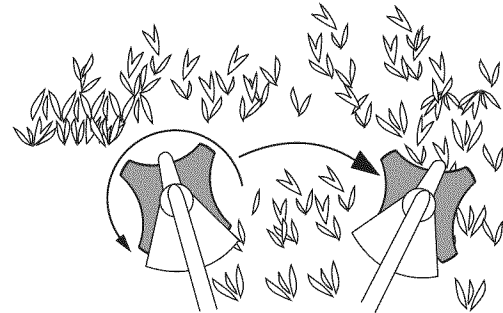

Fig. 14
- Cut from left to right (Fig. 14). This improves the unit's cutting efficiency and throws debris away from the operator. To prevent material wrapping around the blade, avoid cut debris on the return swing.